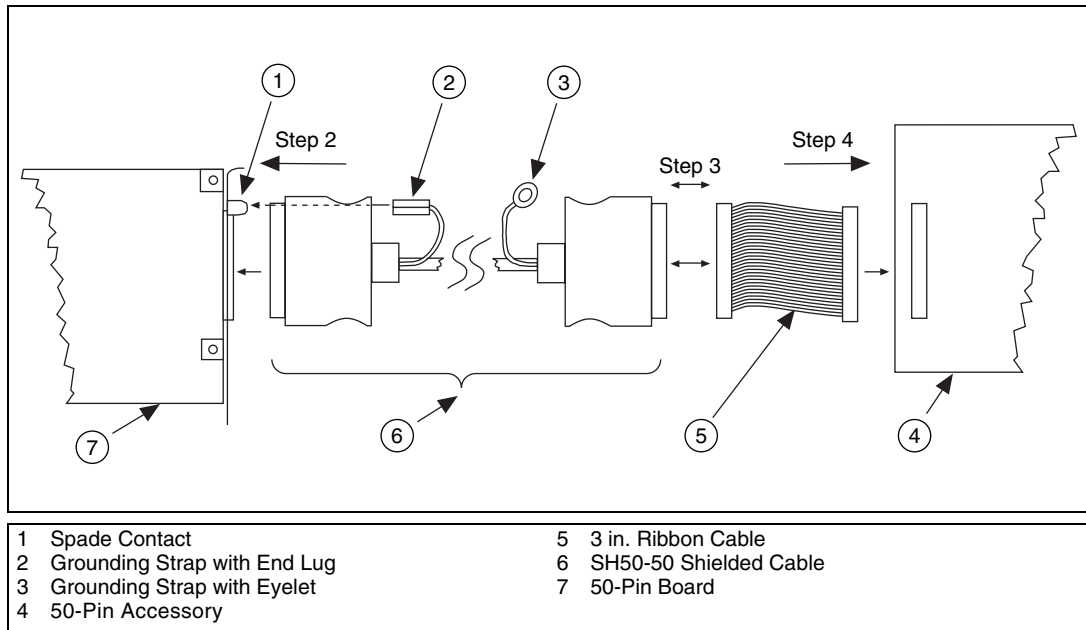

Figure 4. Connecting to a 50-Pin Board
Before you install the SH50-50, you must replace the bracket on your board with the appropriate bracket from the SH50-50 kit, unless your board already has a bracket with a spade contact, as shown in Figure 4. If your board has a bracket with a spade contact, read the Installing the Cable section.
Figure 4 illustrates how to connect the SH50-50 shielded cable and the 3 in. ribbon cable to a 50-pin board and a 50-pin accessory.
2. Connect the 50-pin connector of the SH50-50 cable with the spade terminal grounding strap to the board I/O connector. Slide the spade terminal onto the spade contact of the bracket, as shown in Figure 4.